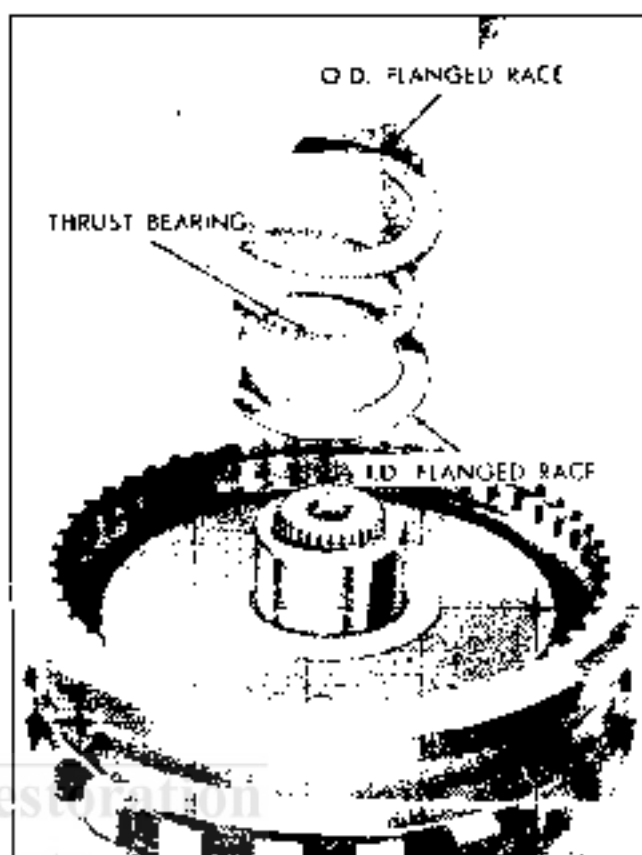

Fig. 7E-125—Installing Rear Internal Gear to Output Shaft Bearing and Races
7. Install output shaft into output carrier (Fig. 7E-124).